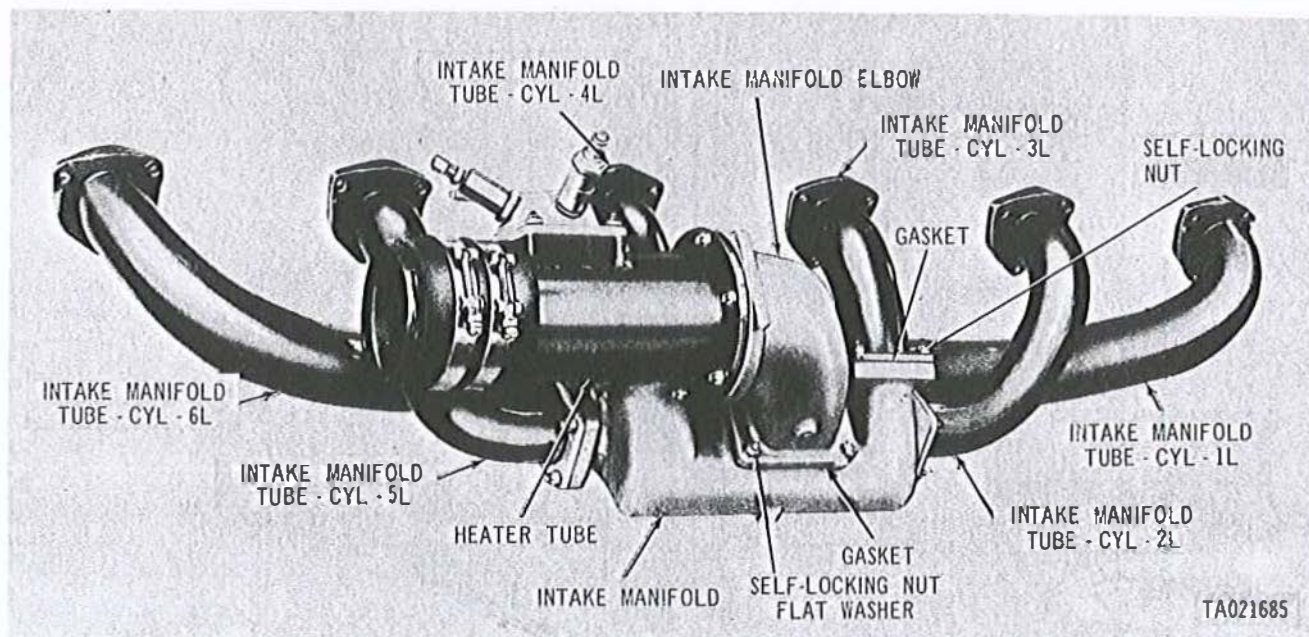

Figure 2-83. Disassembling or assembling intake manifold assembly.
(9) Remove six self-locking nuts and flat washers (fig. 2-83) and remove intake manifold elbow and heater tube as a unit. Remove and discard gasket. Remove eight nuts and remove cylinder 3L and 4L intake manifold tubes. Remove and discard washers. Remove the remaining twelve self-locking nuts securing cylinders 1L, 2L, 5L and 6L tubes to the intake manifold and remove tubes. Remove preformed packing, flat washers, spring washers and manifold flanges from tubes. Discard preformed packings.
(1) Install manifold flanges, spring washers, flat washers and new preformed packings on manifold tubes 1L, 2L, 5L, and 6L. Install tubes in intake manifold and secure with twelve self-locking nuts (fig. 2-83). Install new gaskets and install intake manifold tubes for cylinders 3L and 4L. Secure each tube with four self-locking nuts.
(2) Install a new intake manifold elbow gasket, and install intake manifold elbow and heater tube and secure with six self-locking nuts and flat washers.